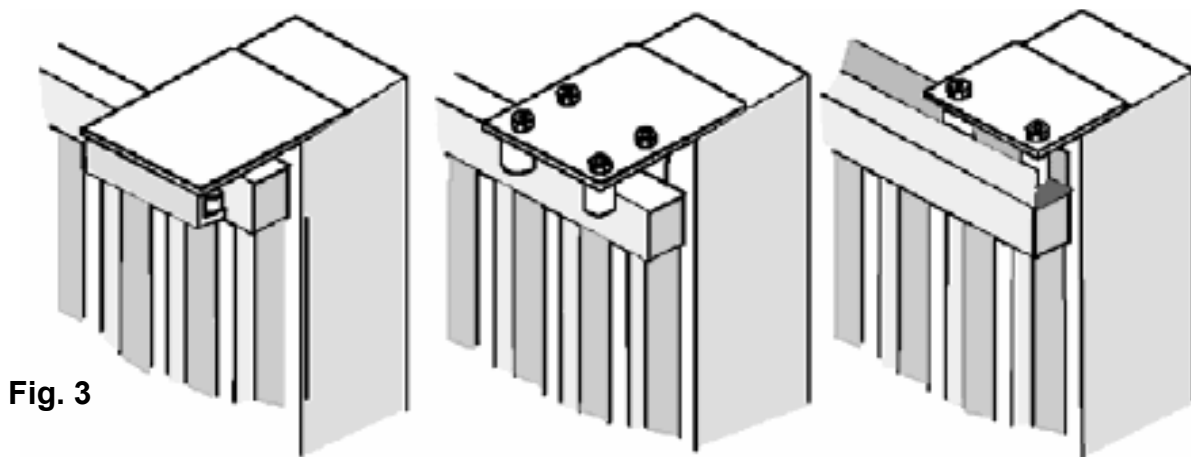
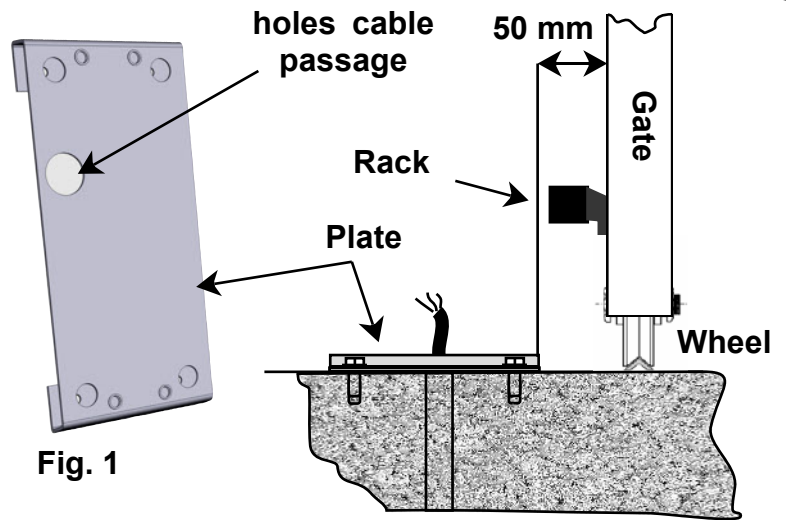
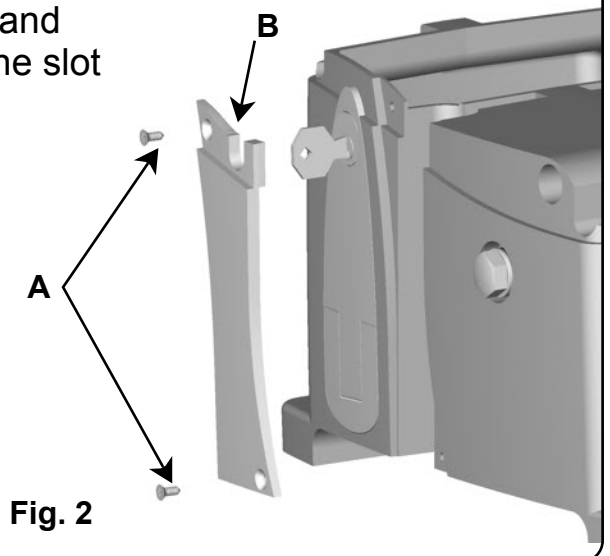

Fig. 3
Fig. 1
Fig. 2
- Also check that the runner on the ground (**Fig. 1**) is not deformed, is perfectly level and that the mechanical stop is present on opening (**Fig. 2**) in order to **prevent** the gate from going beyond the upper runners (**Fig. 3**)
- Check the upper runner (**see Fig. 3**) is firm and the gate slides freely.
Position the plate provided (**Fig. 1**) **50 mm** from the edge of the gate and perfectly square at an angle of 90° .
Remove the cop cover, unscrew the screws **A** and remove the cover **B** and route the cables into the slot of the motor. (**Fig.2**).